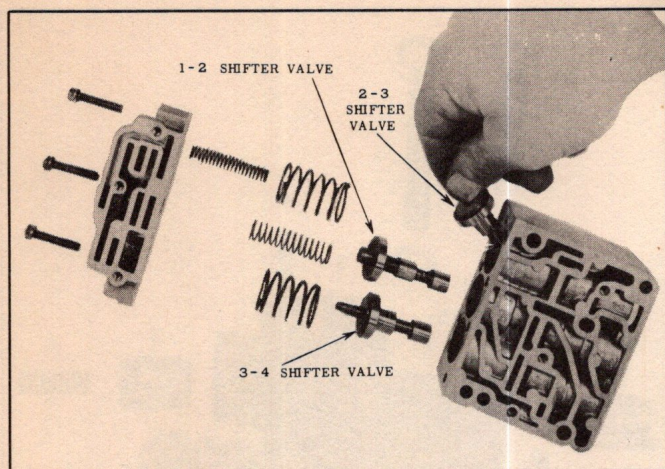

Fig. 179—Removing Shifter Valves
9. Remove three shifter valves (Fig. 179). Valves should be free to move from body by pushing on opposite ends against governor plugs with fingers.